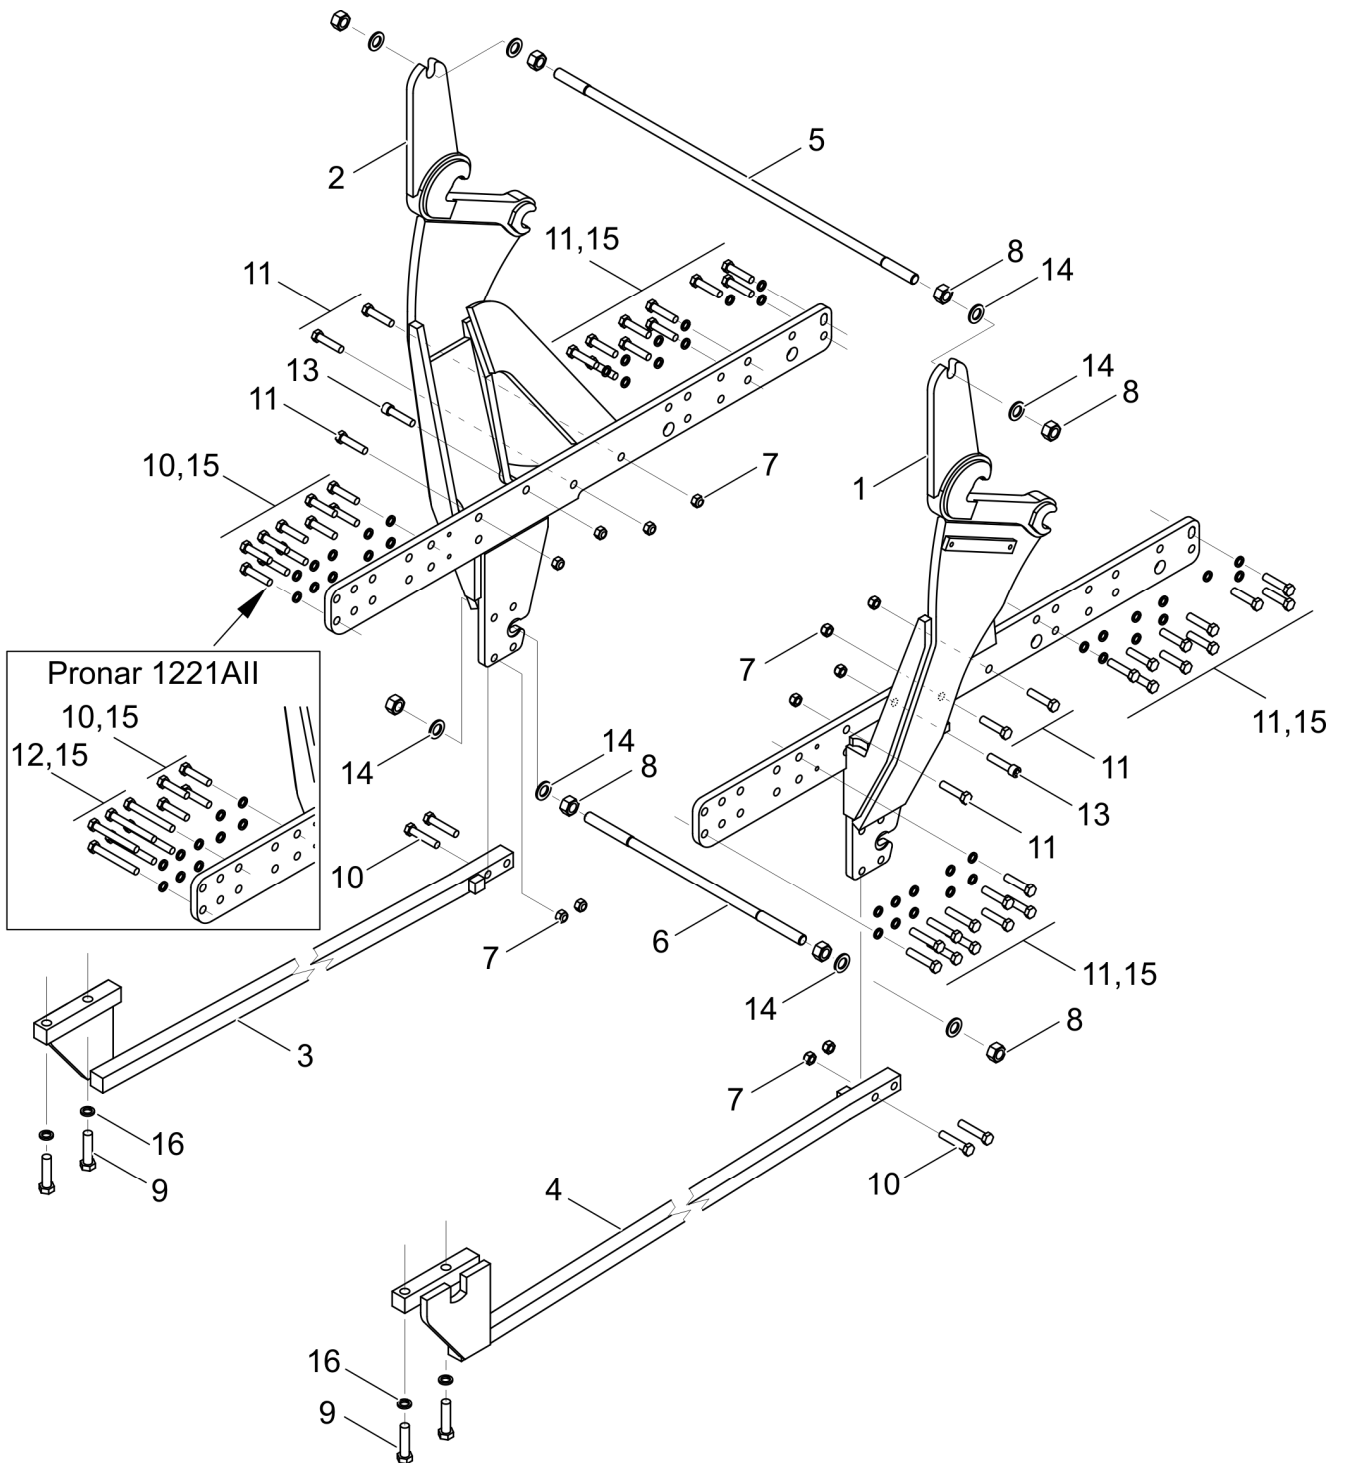

FIGURE 4.3 Loader support frame (Pronar 1221A / 1221All / 1523A and Belarus 1221.3 / 1523.3)
Before mounting the loader's support frame, dismount all components installed at the point where the support frame is to be installed. Secure brackets (1) and (2) (FIGURE 4.3) in the front part to the tractor's frame using bolts (11) with washers (15). Fix the central part of brackets (1) and (2) using bolts (11) and (13). In the rear part, secure the brackets using bolts (10) with washers (15); in 1221All tractors, use bolts (12). Secure brace rods (3) and (4) to the drive axle housing using bolts (9) with washers (16). Connect the other ends of the brace rods to brackets (1) and (2) using bolts (10) and nuts (7). Install the upper securing rod (5) and lower upper securing rod (6).